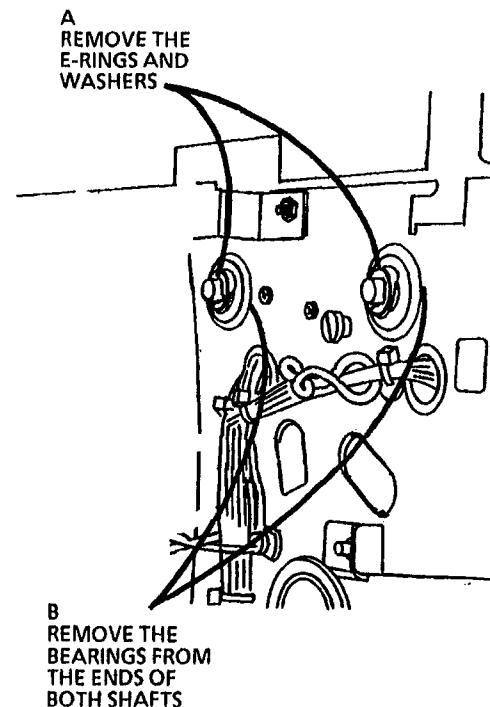

Figure 2. Removing the Bearings
6. (Figure 2): Open the Left Side Door and remove the bearings.